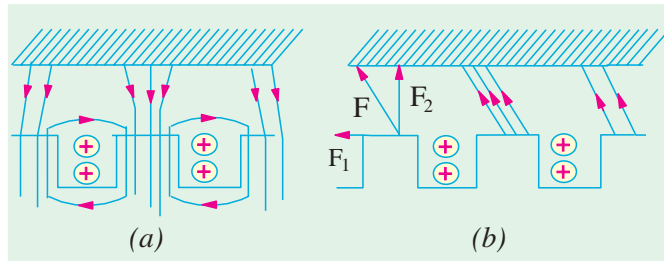

Fig. 29.4
motor with slotted armature, the torque is not due to mechanical force on the conductors themselves, but due to tangential pull on the armature teeth as shown in Fig. 29.4.
It is seen from Fig. 29.4 (a) that the main flux is concentrated in the form of tufts at the armature teeth while the armature flux is shown by the dotted lines embracing the armature slots. The effect of
armature flux on the main flux, as shown in Fig. 29.4 (b), is two-fold :
- (ii) It inclines the direction of lines of force in the air-gap so that they are not radial but are disposed in a manner shown in Fig. 29.4 (b). The pull exerted by the poles on the teeth can now be resolved into two components. One is the tangential component F_1 and the other vertical component F_2 . The vertical component F_2 , when considered for all the teeth round the armature, adds up to zero. But the component F_1 is not cancelled and it is this tangential component which, acting on all the teeth, gives rise to the armature torque.